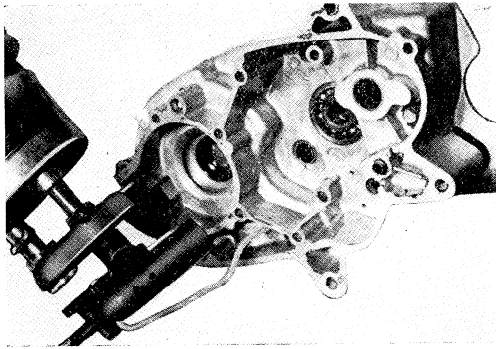

Fig. 5-4-30
30. Heat the crankcase round about the bearing holes with a burner until the bearings can be removed by hand as the bearings are shrink-fitted in the crankcase. (Fig. 5-4-30)